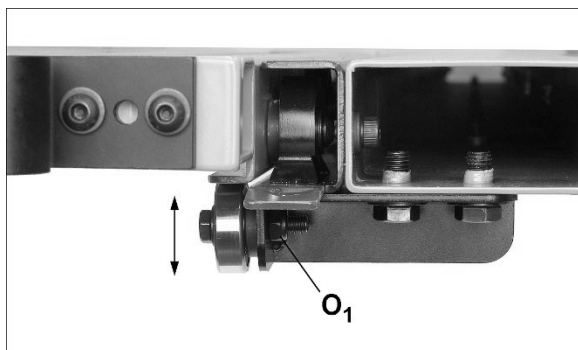

Figure 7-19
14. Check height of horizontal bearing bracket (Figure 7-19). To make adjustments, loosen nut (O_1) and raise or lower bearing to just contact bottom lip of table. Tighten nut.